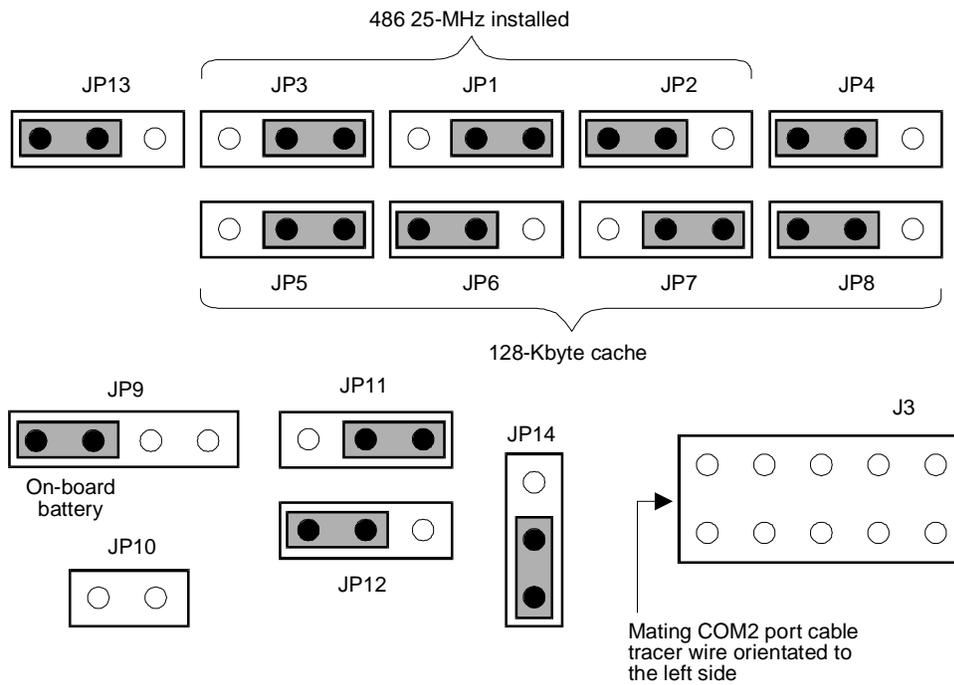

Figure 9-4. Jumper Settings for the 486 25MHz CPU Card, Version 2
Jumpers on the 486 CPU circuit card, Revision 2, should be set as indicated in Figure 9-4.
1. Orient the card as shown in Figure 9-4.